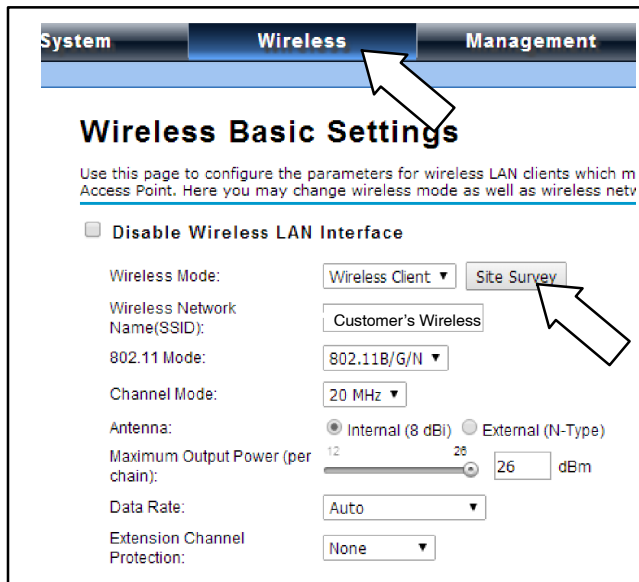

Figure 15 Select Site Survey
9.8 Click Site Survey. See Figure 15.